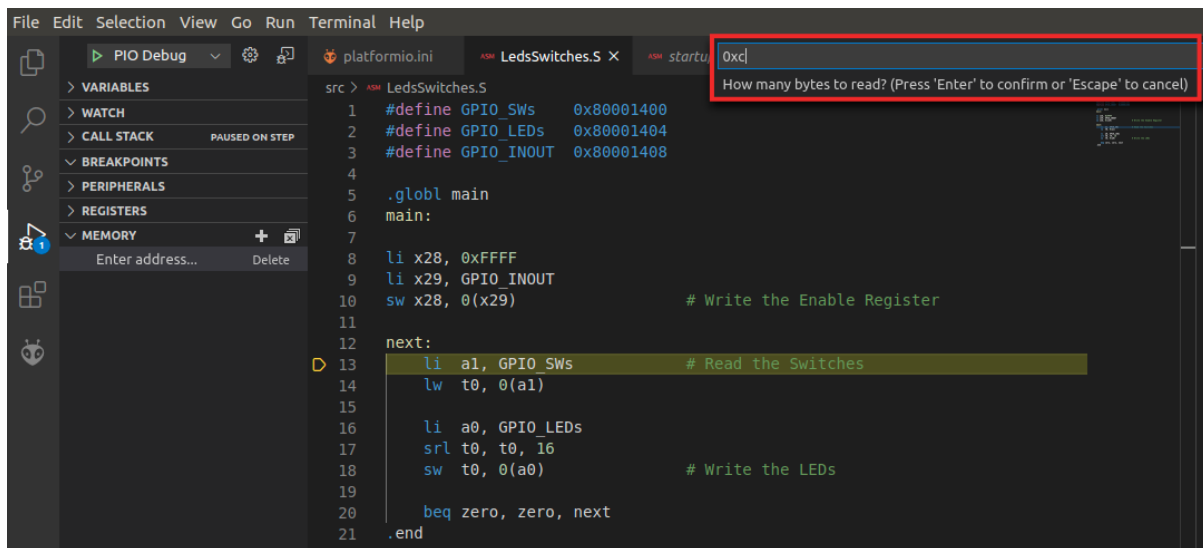

Figure 57. Number of bytes to show
- c. Then, the number of bytes that you want to inspect is requested (see Figure 57), so insert a value of 0xc (we want to inspect three 4-byte I/O registers,